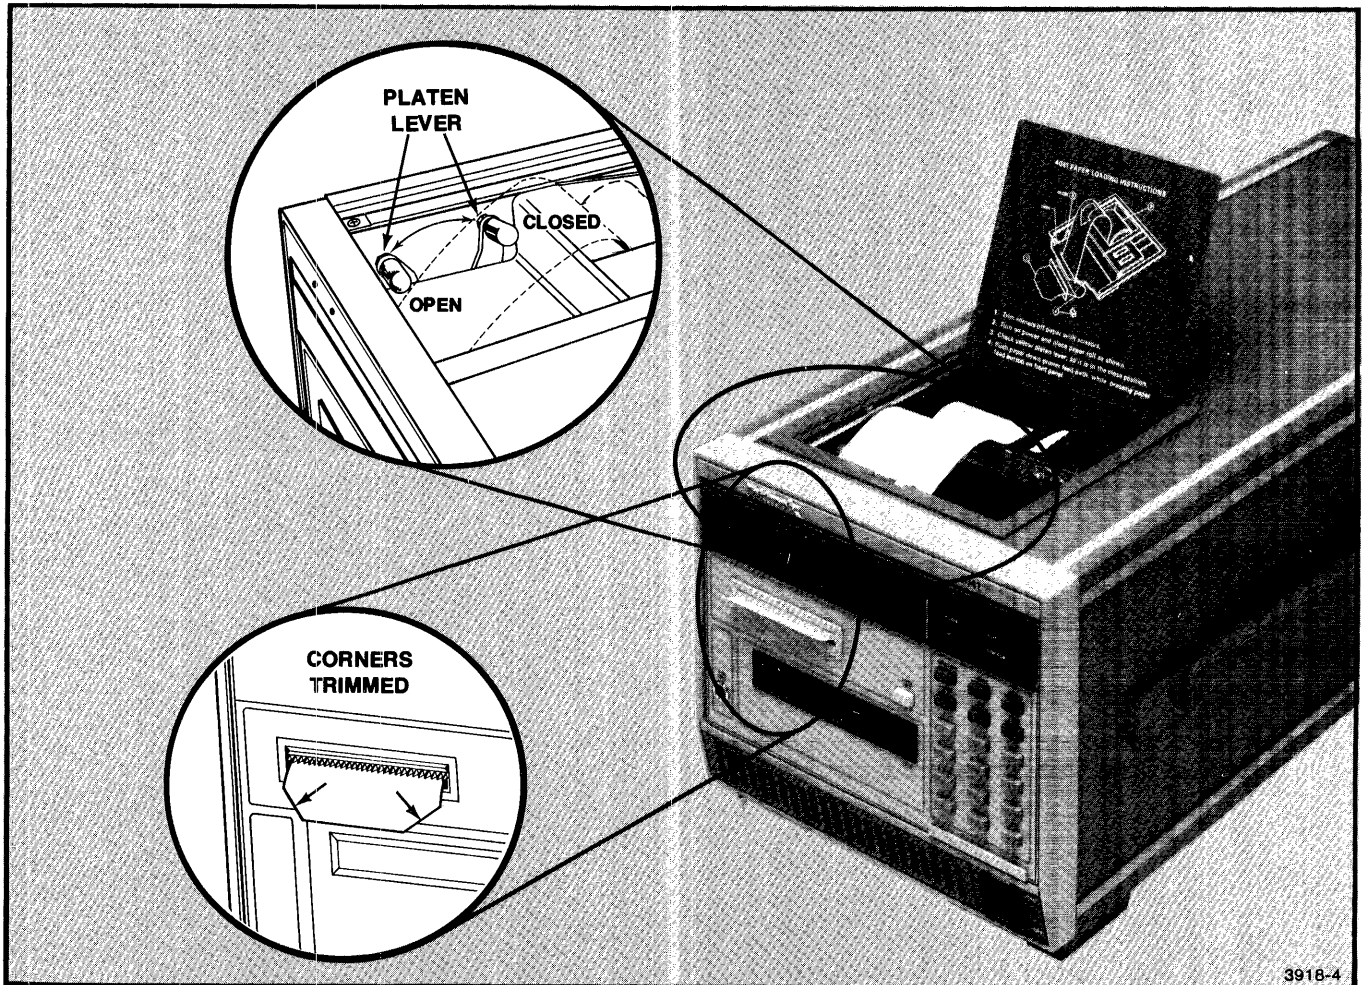

Figure 2-3. Thermal Printer Paper Compartment.
The thermal printer paper roll is loaded through the door on top of the 4041 (Figure 2-3).
2. Unwrap a fresh roll of thermal printer paper. Trim the end corners as shown in the inset in Figure 2-3.
3. Place the roll in the paper tray (Figure 2-3) with the leading end going under the roll toward the front of the 4041.
4. Open the platen lever (Figure 2-3 inset). The platen lever is open when it is pulled toward the front panel and closed when it is pushed back.